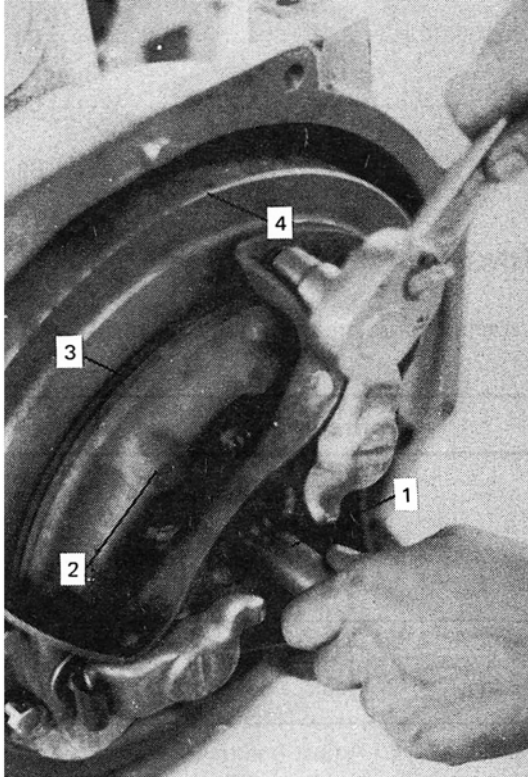

Figure 5
3. Locate the pressure plate assembly on the flywheel and install the locating bolts and lockwashers, Figure 5. Tighten the bolts evenly to the specified torque, page 69, then remove the pilot shaft.